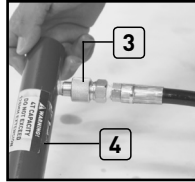

Fig.2
2. Align and connect the Hydraulic Hose w/Coupling (3) from the Pump Assembly (1) to the Ram (4) then fasten the coupling clockwise to tighten securely (Fig 2). Do NOT overtighten.